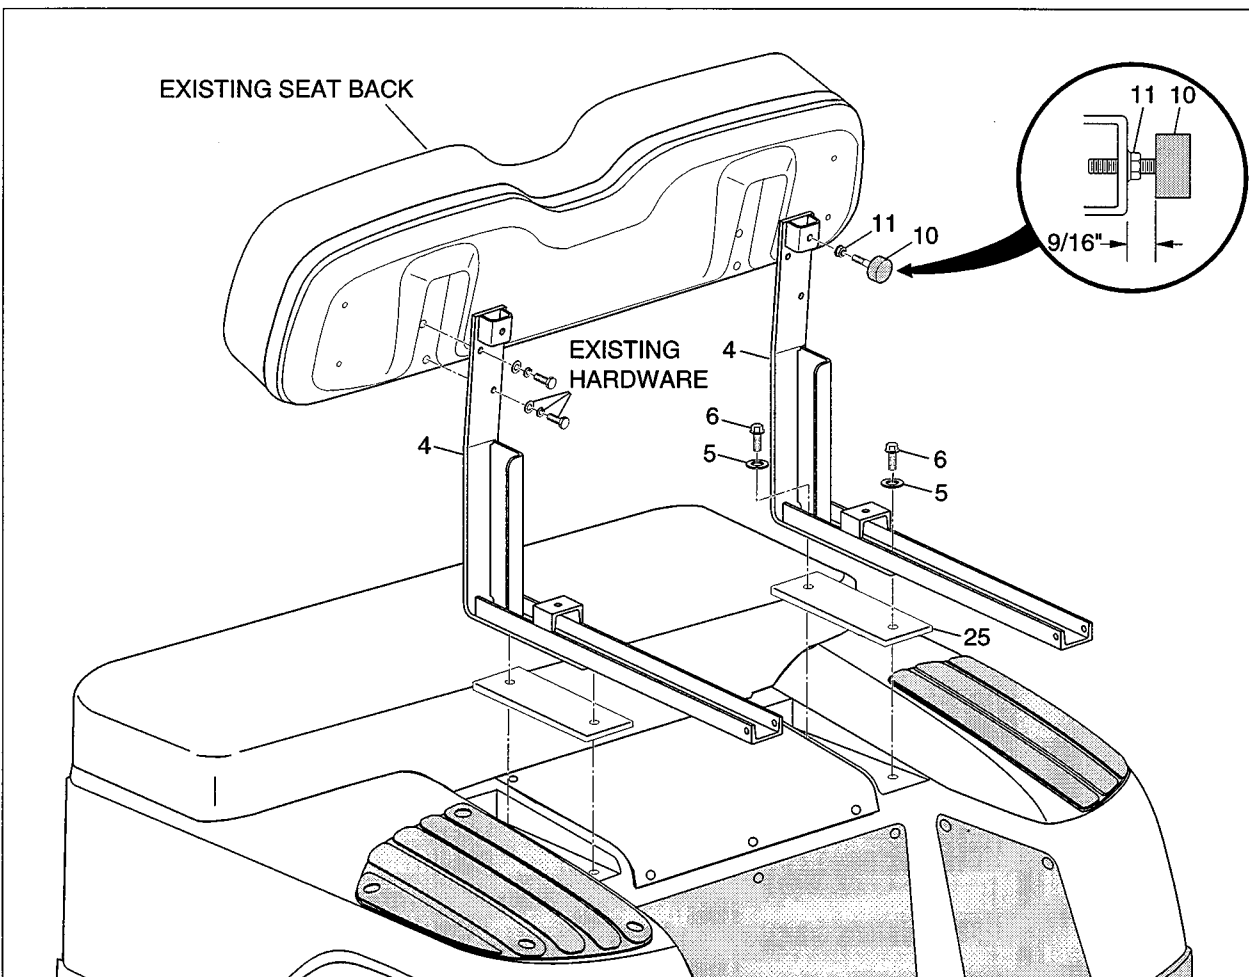

Fig. 3
B. INSTALLING SEAT BACK SUPPORT (Refer to Fig. 3)
2. Install the new seat back supports (item 4) to the frame using washers (item 5) and bolts (item 6). Finger tighten hardware to allow for adjustment.
4. Install rubber bumpers (item 10) on vertical part of seat support bracket using one lock nut (item 11) (per bumper) as shown in Fig. 3. Tighten to dimension specified.
5. Tighten bolts (item 6) to 21 - 25 ft. lbs. torque.